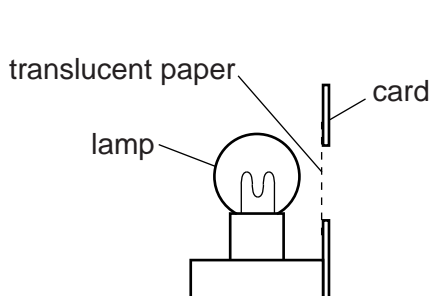

Fig. 4.1
- (ii) Illuminated object with a triangular hole of height 1.5 cm (see Figs. 4.1 and 4.2). The hole is to be covered with thin translucent paper (e.g. tracing paper). See note 2.